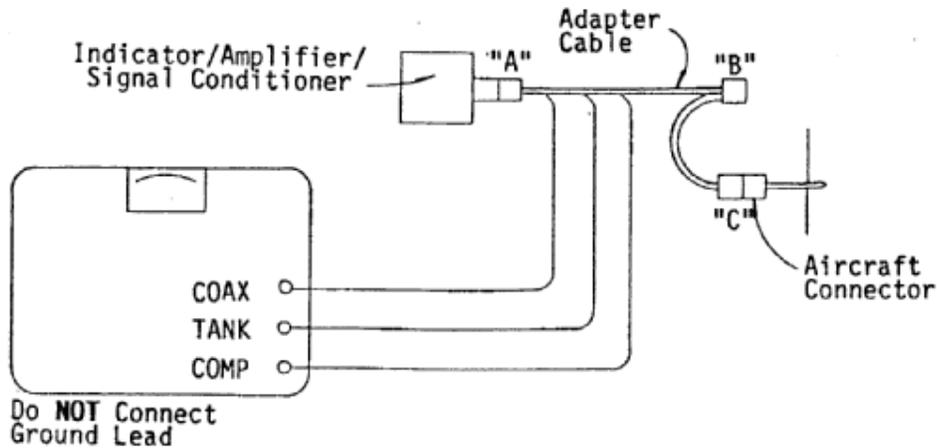

Figure 13 CAPACITANCE SIMULATION, CONFIGURATION #1
- With multiple connectors at the aircraft end, one of which is wired without tank unit circuits to the amplifier as shown in Figure 13.
- (1) Identify the type of adapter cable to be used and connect the Test Set, adapter cable, amplifier and the aircraft wiring as shown in Figures 13, 14, or 15 accordingly.
- (2) Set the TEST FUNCTION switch to CAP BRIDGE.
- (8) Connect the adapter cable's HI-Z COAX, LO-Z TANK and LO-Z COMP leads to the Test Set's corresponding receptacles as shown in Figures 13, 14, or 15.